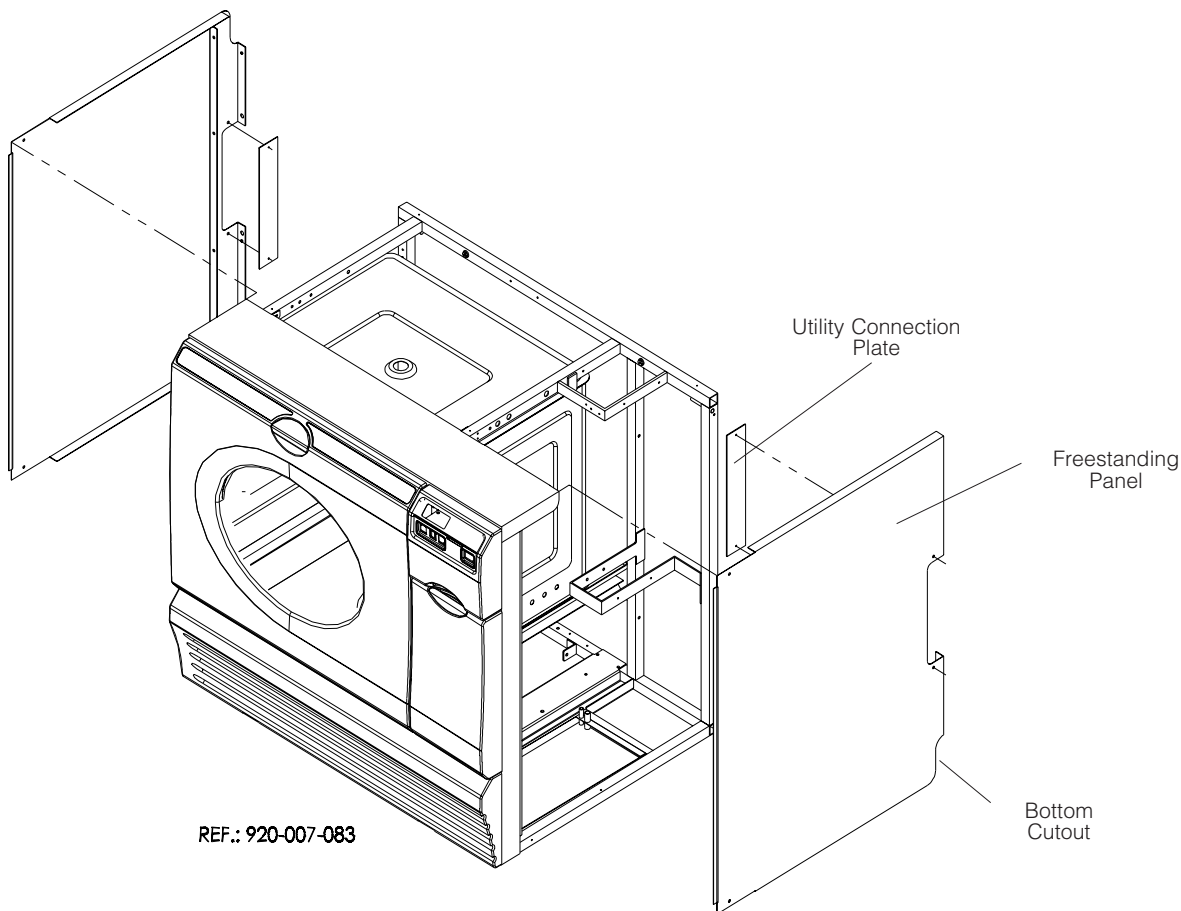

Figure 3-8. Optional Freestanding Panels
- 8-32 x 1/4" screws (12)
- Utility Connection Plates (2)
3. Install freestanding panels on washer/disinfector frame using provided screws (see Figure 3-8). Ensure bottom cutout is facing down.
4. If utility flexible hoses and electrical cord are connected from the back of the unit, install utility connections plates using provided screws (see Figure 3-8).